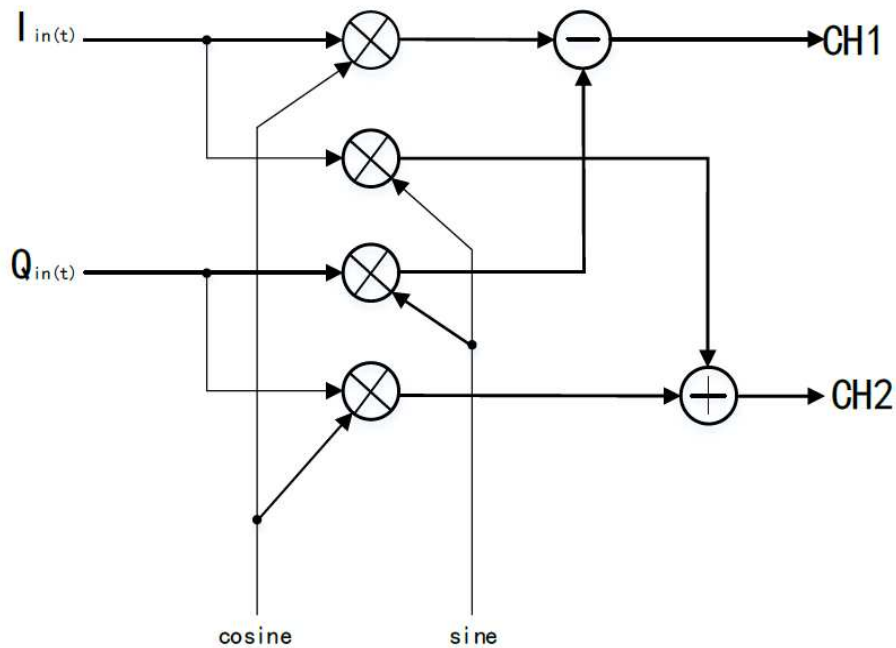

Figure 2-31 IQ Modulator in the T3AFG
Press Parameter→ Center Frequency, to set the center frequency. The range of center frequency is 0Hz - 500MHz. If the center frequency is 0Hz, the two channels will output the IQ baseband signal. If the center frequency is not zero the two channels will output an intermediate frequency (IF) IQ modulation signal whose center frequency is the intermediate frequency. The figure below shows the diagram of the IQ modulator in the T3AFG Figure 2-31.